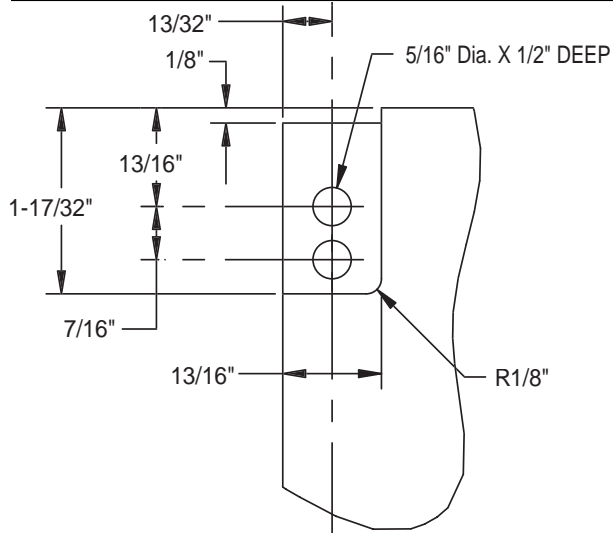

Figure 3B
2B. Route notch in back side of top corner of panel (**Figures 3B and 3D**).
Radius of corner notch: 1/8" (**Figure 3B**)
3. Drill holes for pivot plate mounts (**Figure 3B**).